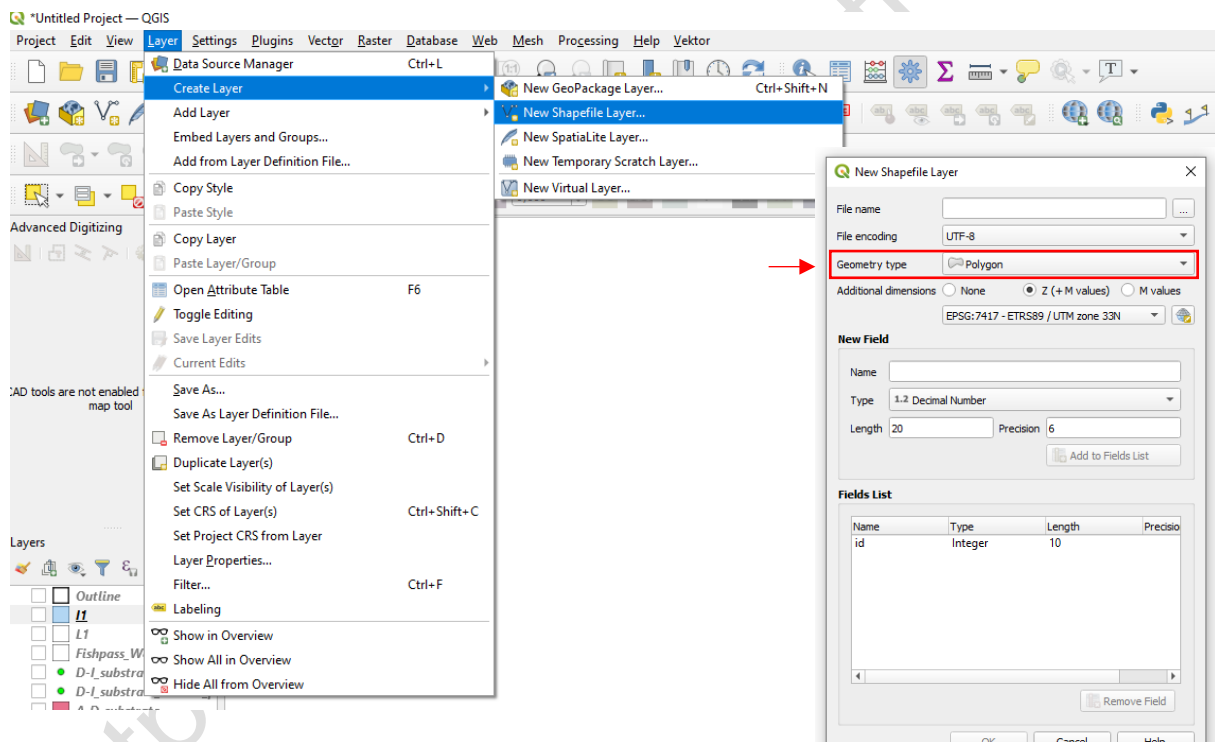

Figure 1: Create new Shapefile Layer.
1. Create a series of polygons defining the different roughness areas as shown in Figure 1.